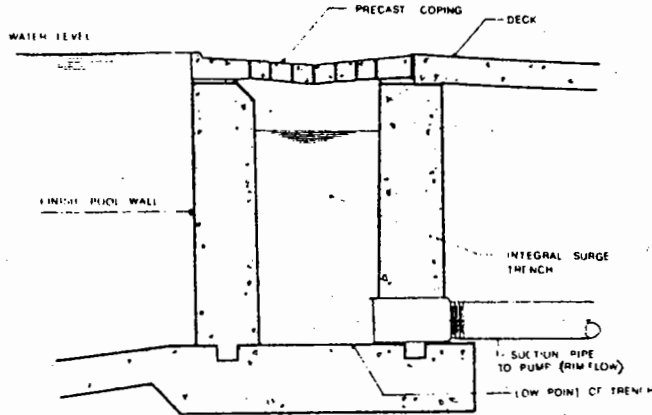

Fig. 10 Rimflow or deck level system.
d. **Deck-level or rimflow system.** (Fig. 10.) These two systems have many similarities but they differ in their hydraulic characteristics. The deck-level installation has side inlets and a bottom main drain. The integral trench serves as surge capacity for surface skimming, and supply piping can be run in the trench. The rimflow installation has bottom inlets and the integral trench serves as the main drain. All the pool water is drawn over the edges. Both systems incorporate a precast coping and precast concrete slotted trench cover.